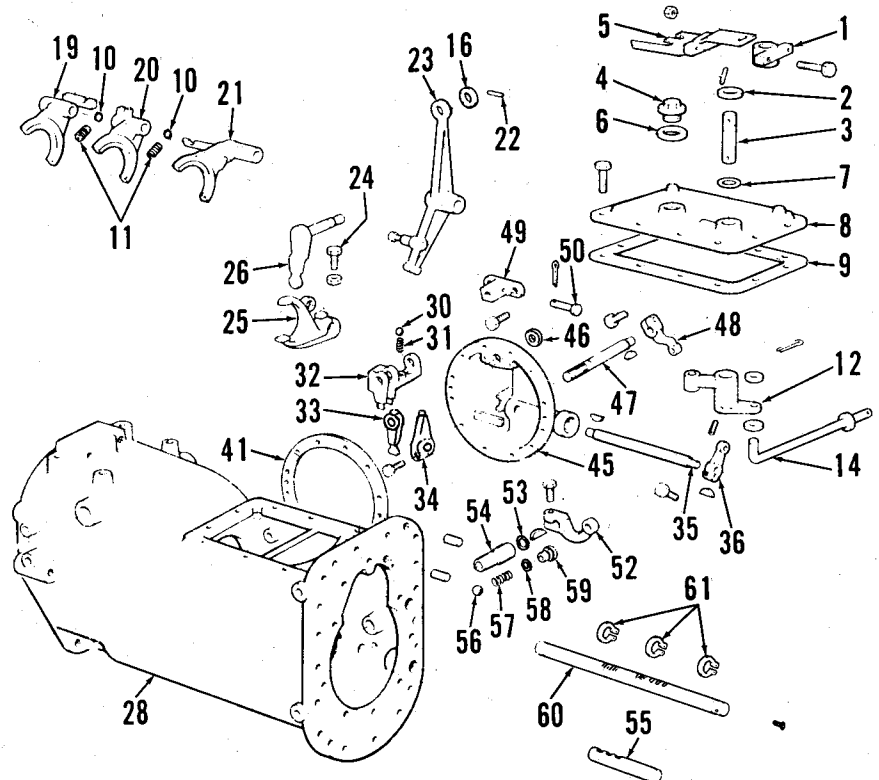

Fig. 158—View showing transmission housing, gearshift and parking brake components.
out disturbing adjustment on spring end of lever. Unbolt cover from transmission housing, pivot front end of cover to the left far enough to remove "hairpin" spring clip (22—Fig. 158), and washer from end of brake rod (14). Cover and brake rod may now be removed. With cover off, drive out roll pin at top of brake lever shaft (3) and remove actuating lever hub from top of shaft. Tap shaft (3) out bottom of cover. "O" ring (7) should be renewed at this time and brake lever (12), brake rod (14) and shaft (3) inspected for wear, as well as shaft bore in transmission cover. Lubricate shaft, bore and "O" ring before reinstalling in cover. Reinstall actuating lever hub on top of shaft (3) and reinstall roll pin.
Unscrew bolts (B) and remove actuator assembly. Unbolt transmission housing cover, pivot front end of cover to the left far enough to remove pin (22—Fig. 158) and washer (16) from brake rod (14). Cover and brake rod may now be removed. With cover off, drive out roll pin at top of brake lever shaft (3) and remove actuating lever hub from top of shaft. Tap shaft (3) out bottom of cover. "O" ring (7) should be renewed at this time and brake lever (12), brake rod (14) and shaft (3) inspected for wear, as well as shaft bore in transmission cover. Lubricate shaft, bore and "O" ring before installing in cover. Reinstall actuating lever hub (1) on top of shaft (3) and reinstall roll pin.
NOTE: To avoid excessive spring tension when installing anchor, make sure parking brake pawl (23—Fig. 158) falls into full engagement in collar in transmission.
Remove interlock finger (34—Fig. 158) and key from shaft (35) then withdraw shaft from shift cover. Remove gearshift arm (48) and key from shaft (47). Extract clevis pin (50) from support (49) and pull out shaft (47) just enough to remove shift control finger (33). Do not pull out shaft more than necessary to remove finger as shaft splines may